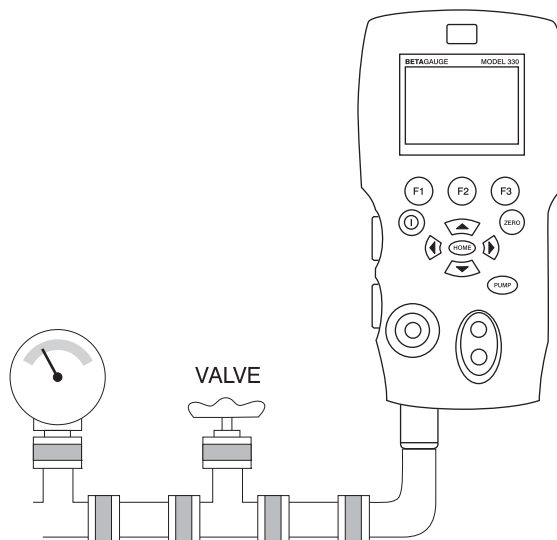

Figure 5
1. The BetaGauge 330 is supplied with a special low volume calibration hose kit to facilitate faster pumping to pressure and quick pressure stabilization. the kit also comes with the required “quick-fit” hose connectors and a BSP adapter for non-NPT applications. It is highly recommended that this type of hose is used to achieve the best performance of the product. Once the fittings are installed and the calibrator is connected to the unit under test (UUT) the calibrator is ready for use. Figure 5 shows a typical setup.